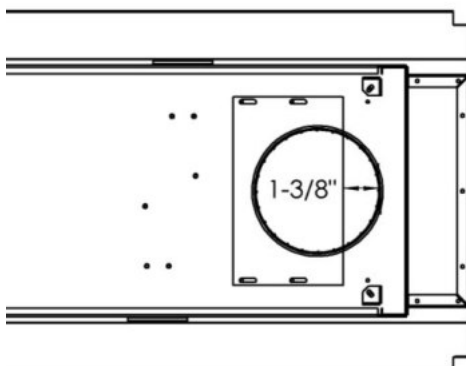

Fig.4
5. For Vertical Venting 40 feet or above in height, the Flue Restrictor should be open 1-3/8" from the back of the Flue (**Fig. 4**).